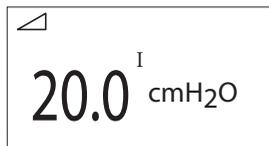

FIGURE 4–2 STANDBY SCREEN
- Press the  button to turn on the airflow. The Active Display screen appears, shown in Figure 4–3.